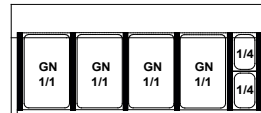

Fig.4 Layout of GN containers in “Kasia” device
7. (Concerns "Kasia" display cabinets) Place cross-bars under GN containers, and then place GN containers according to Fig.4 (p.14)